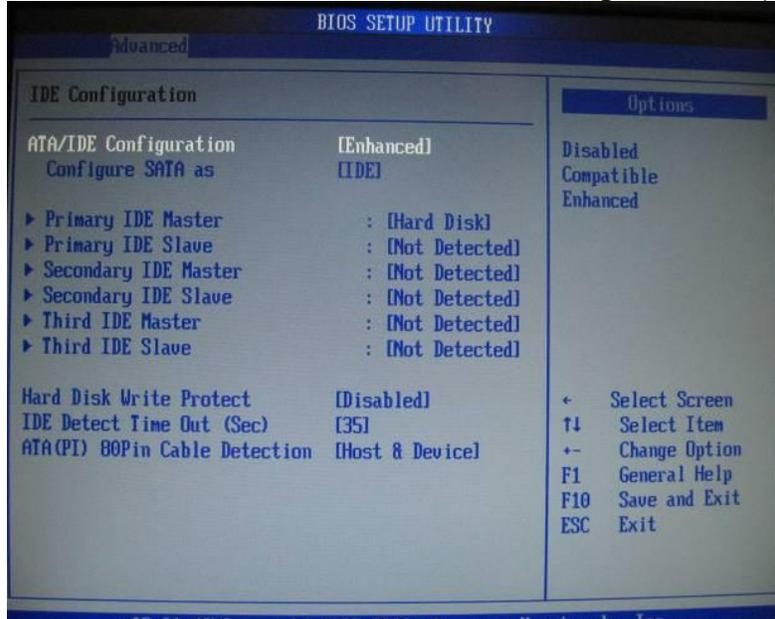

Figure 8-15 IDE Configuration
5. **No Change** required for **IDE Configuration**, Press **Enter**. Then press **Escape** to return to **Advanced Settings** screen. (Figure 8-15).